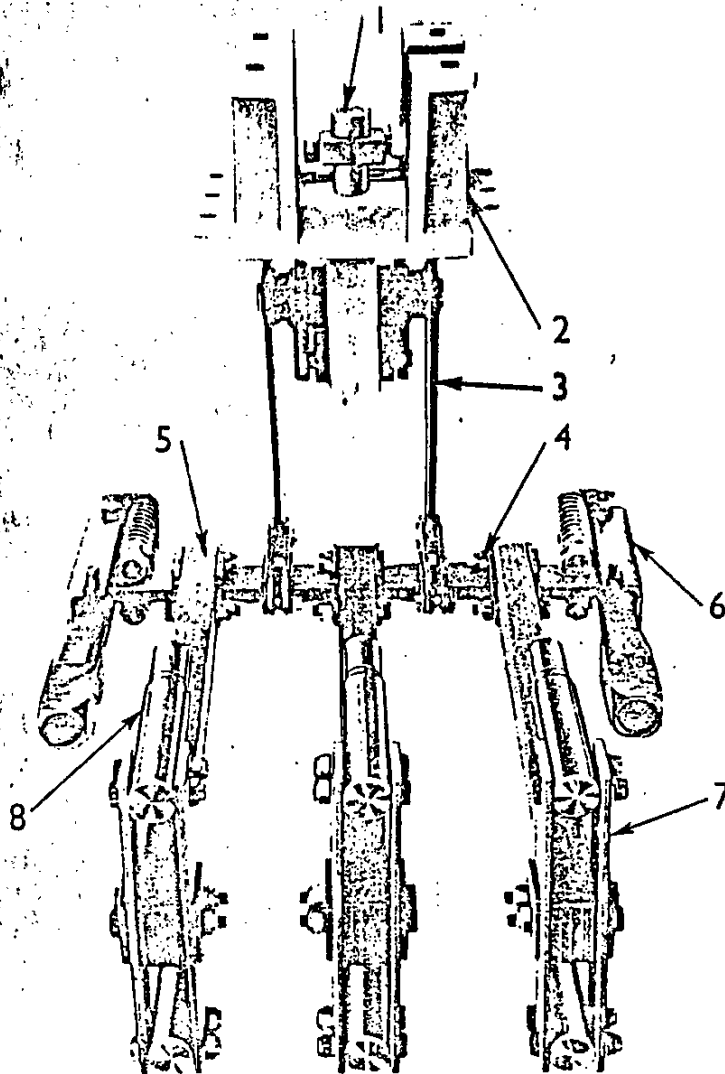

Fig. 3 Details of circuit-breaker
- Fig. 3 Details of circuit-breaker internal components